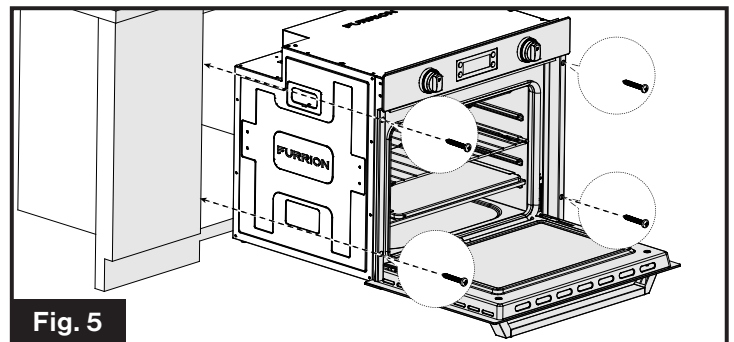

Fig. 5
- Open the oven door and securely fasten the oven in place with four screws (**Not provided**). (Fig. 5)